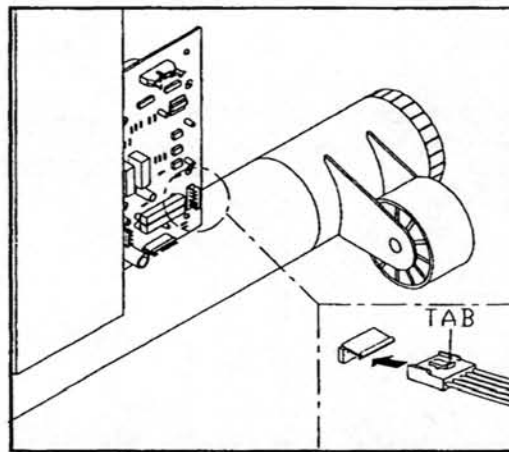

Fig.4-5
2. Connecting the cable into the DRIVE BOARD (see fig 4-5).